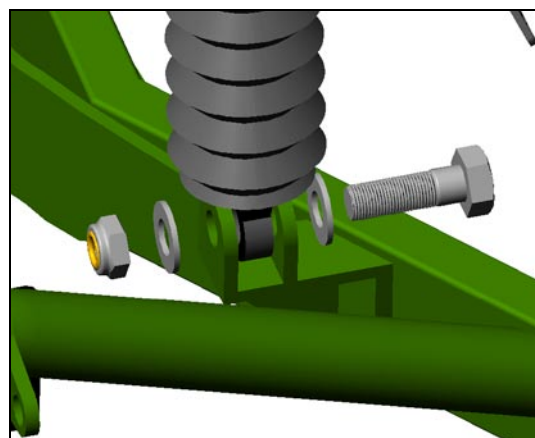

Figure 27
- Lower Hardware (outboard shocks). Figure 27